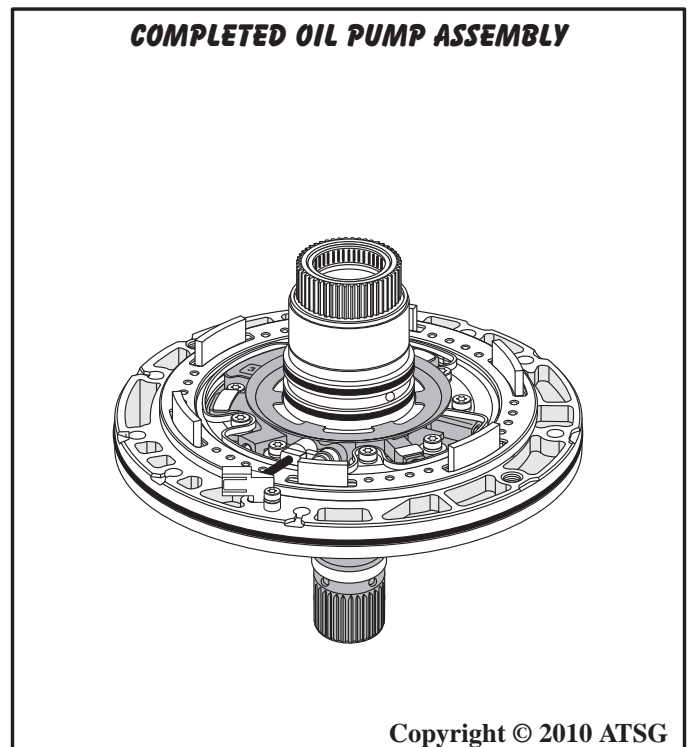

Figure 166
22. Set the completed oil pump assembly aside for the final assembly process (See Figure 166).